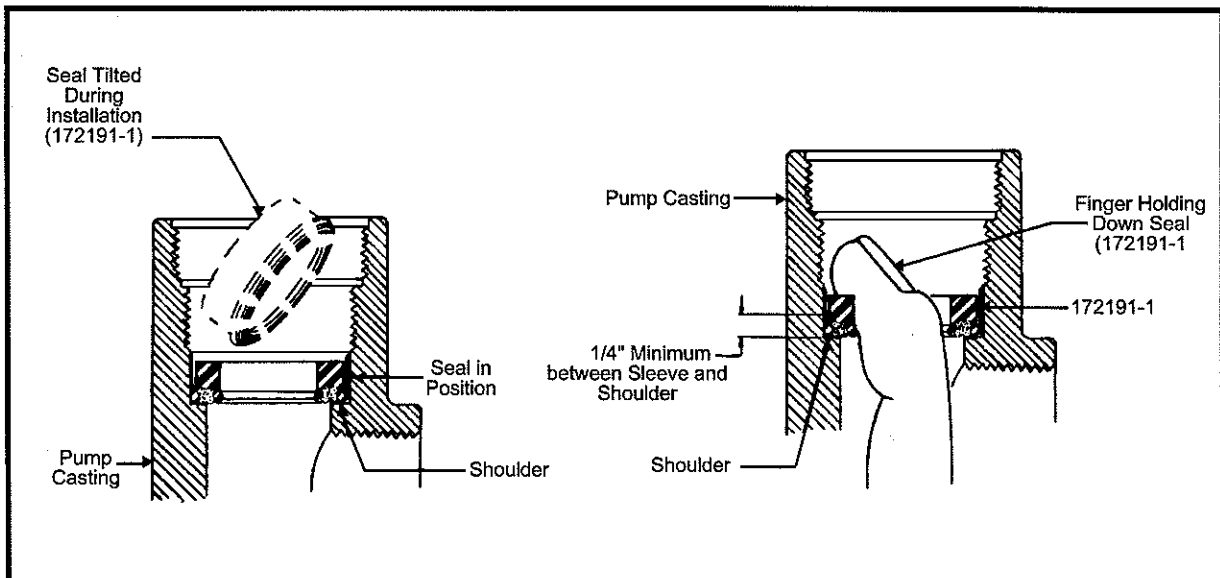

Figure 1: Installation of Seal 172191-1 in Pump Casting
(Figures 1 & 2)
2. Push seal down against shoulder in pump casting (Figure 1).